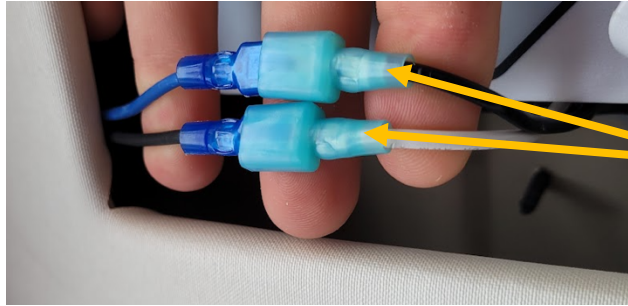

Figure 17
- b. Reconnect the spade terminal connectors as follows: White fan wire to black harness wire; Black fan wire to blue harness wire. **See figure 17.**